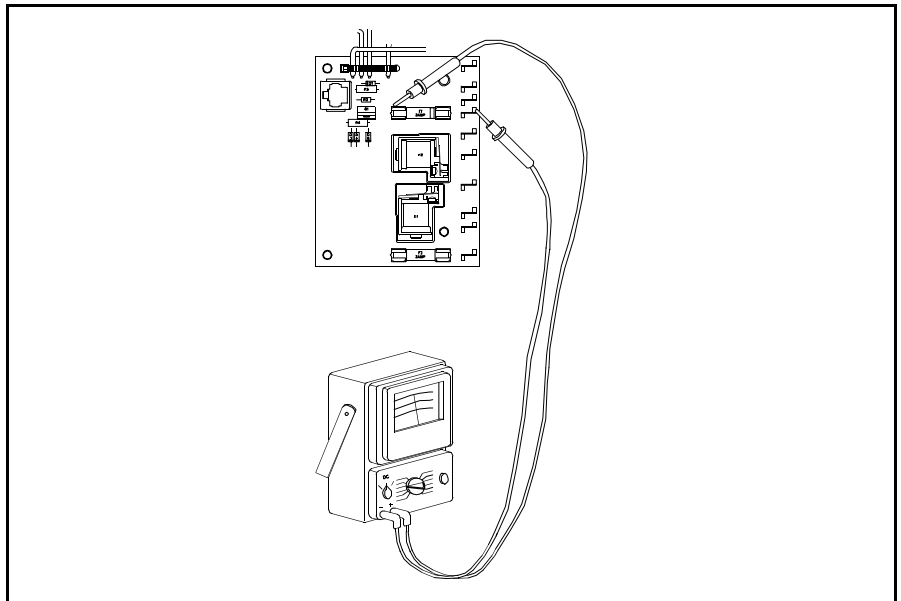

Figure 5.45 3 Amp Fuse Check
10. Check the 3 amp fuse as shown in Figure 5.45. To be sure you have 12 volts DC across it. If you do not have 12 volts, replace the 3 amp fuse.